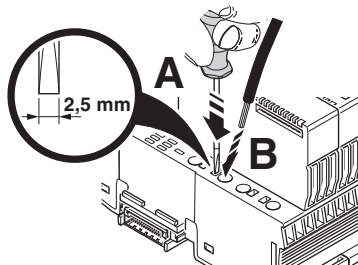

Figure 11-18 Connecting a stranded cable with tools
- Open the spring by pressing the actuation slot with the screwdriver (Figure 11-18, A). Use, for example, a bladed screwdriver with a blade width of 2.5 mm. Phoenix Contact recommends the SZS 0,4x2,5 screwdriver (see Section "Ordering data" on page 139).
- Insert the cable in the terminal point (B).